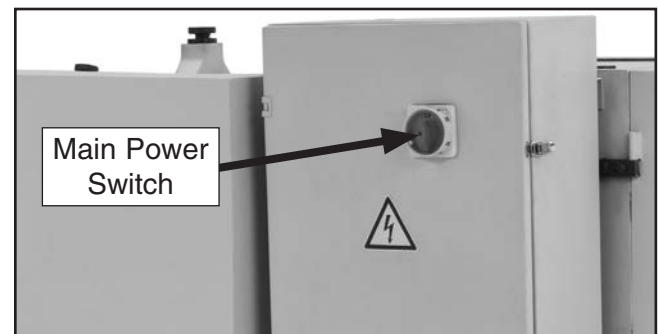

Figure 25. Location of the main power switch.
1. Make sure the main power switch (see **Figure 25**) is turned OFF.